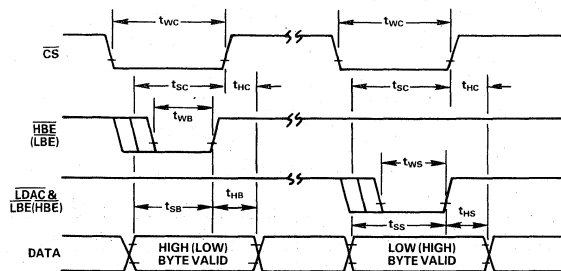

Figure 2. Timing for Synchronous Load of DAC Register
- 3Write strobe applied to  $\overline{LDAC}$  and either  $\overline{HBE}$  or  $\overline{LBE}$  for synchronous load of 16-bit DAC register with one of the 8-bit first-rank registers as shown in Figure 19b (see Figure 2).